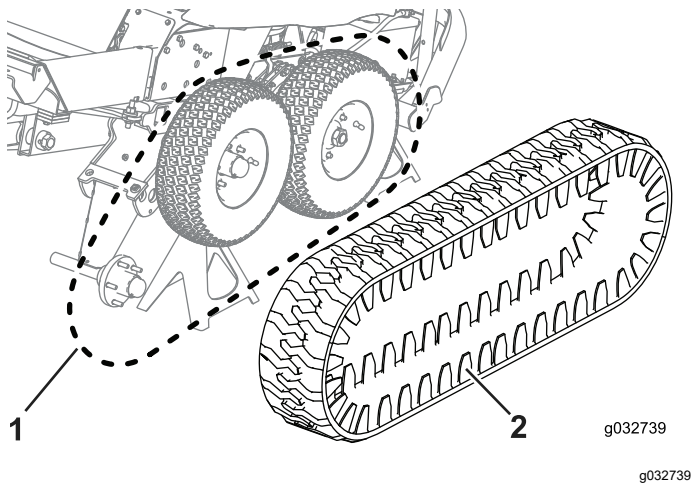

Figure 90
7. Arrange the tracks around center and rear wheels (Figure 90).